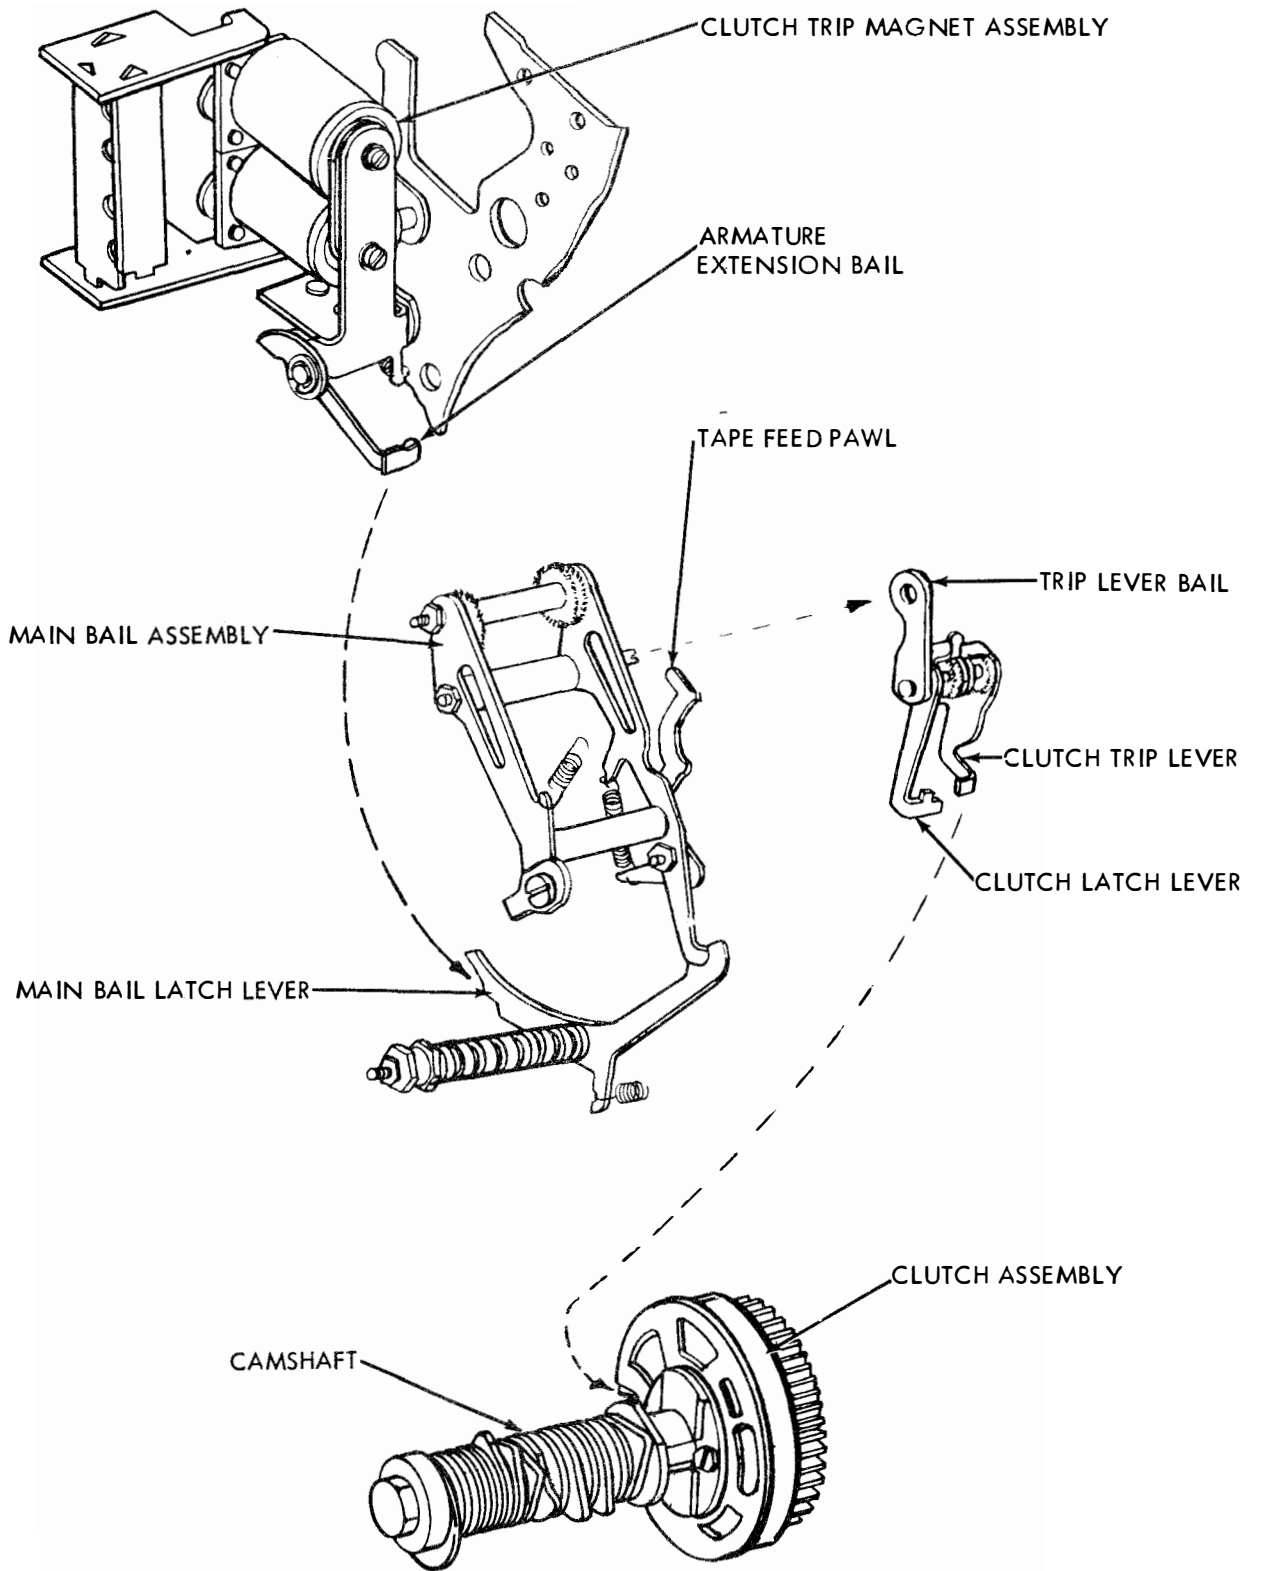

Figure 11 - Function Control Mechanism
2.09 The clutch trip lever moves away from its latch when the eccentric post on the spring biased main bail cams the clutch trip bail; the trip bail in turn moves the clutch trip lever. (The eccentric on the main bail rides in the slot of the clutch trip bail so that when the main bail is released the clutch trip bail is also released by the interconnection.) Figure 11.
2.11 During the movement of the main bail, the clutch trip bail pivots on its axis and pushes the clutch trip lever away from the shoe release lever to engage the clutch and start the main shaft rotating. Figure 11.
2.24 Since the tape-out contacts are in series with the start-stop tight-tape contacts, the clutch trip magnet becomes de-energized and releases its armature. This permits the armature extension to pivot out of its blocking position and allow the main bail latch to be moved by its spring. Figures 11 and 19.